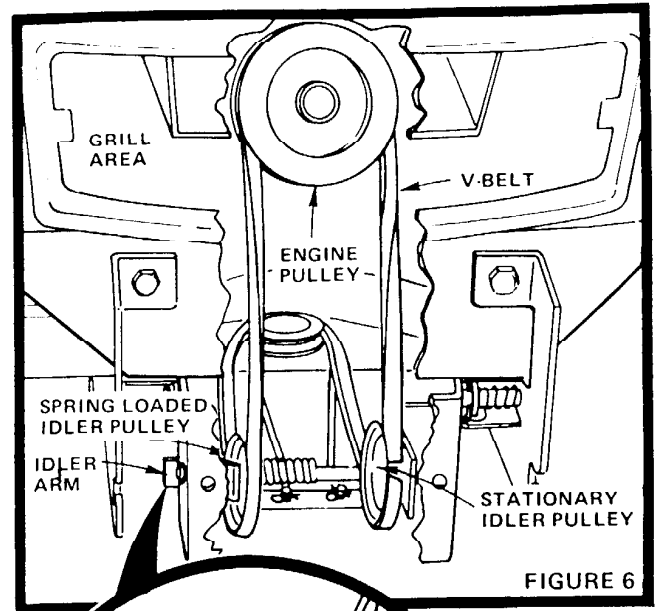

FIGURE 6
18. Thread V-Belt around Stationary Idler Pulley (L.H. side) and over Engine Pulley (Fig. 6).
19. Using an adjustable wrench pull Idler Arm forward and install V-Belt (Fig. 6).